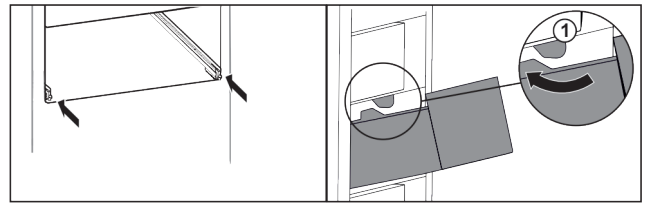

Fig. 42
- ▶ Guide the drawer around the stoppers Fig. 42 (1).